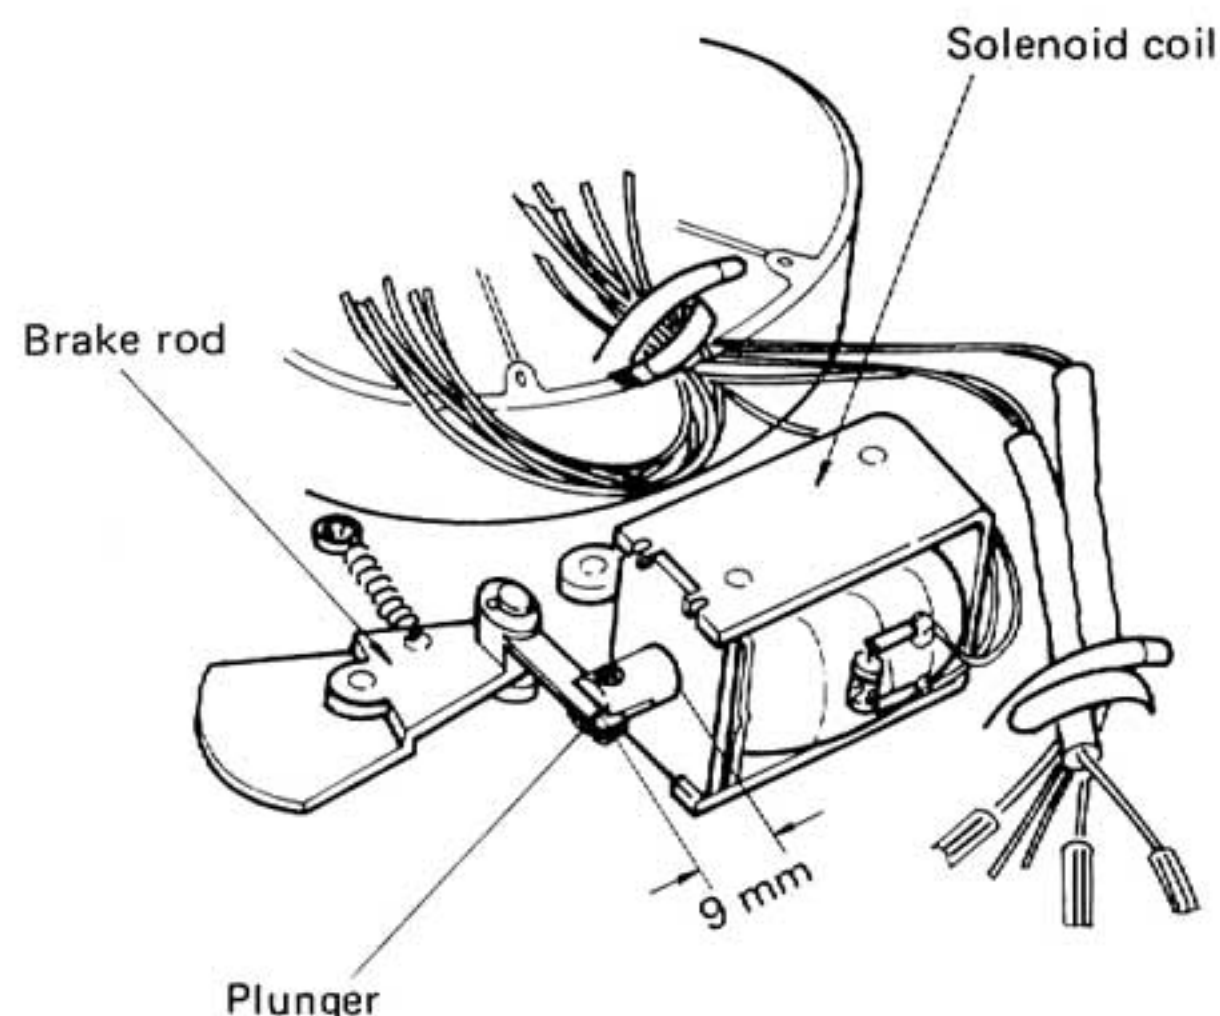
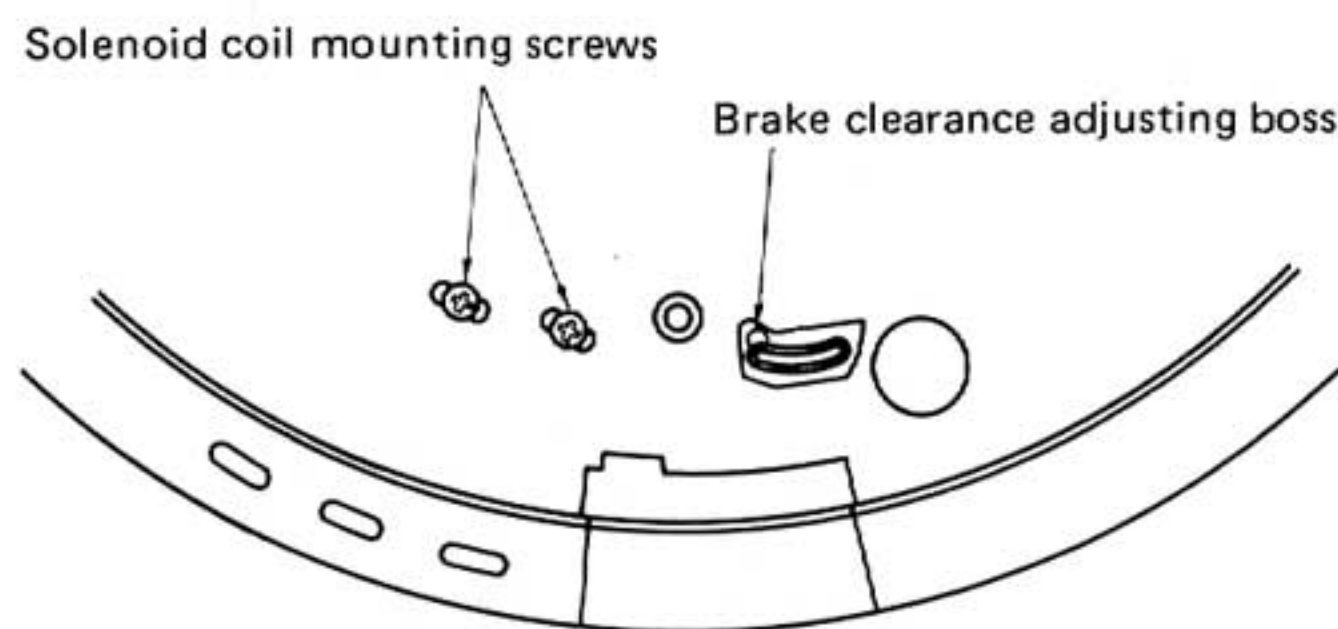

Fig. 15
Fig. 16
1. Fit the brake lining inside the platter (The function is the same as a normal brake). Slightly loosen the 2 solenoid mounting screws, then adjust the solenoid coil position until the clearance between the solenoid coil end and the plunger head is 9 mm. (Refer to Fig. 15.) After the adjustment, be sure to re-tighten the screws firmly (Refer to Fig. 16).
- **How to use the brake clearance adjusting boss. (Refer to Fig. 16)**